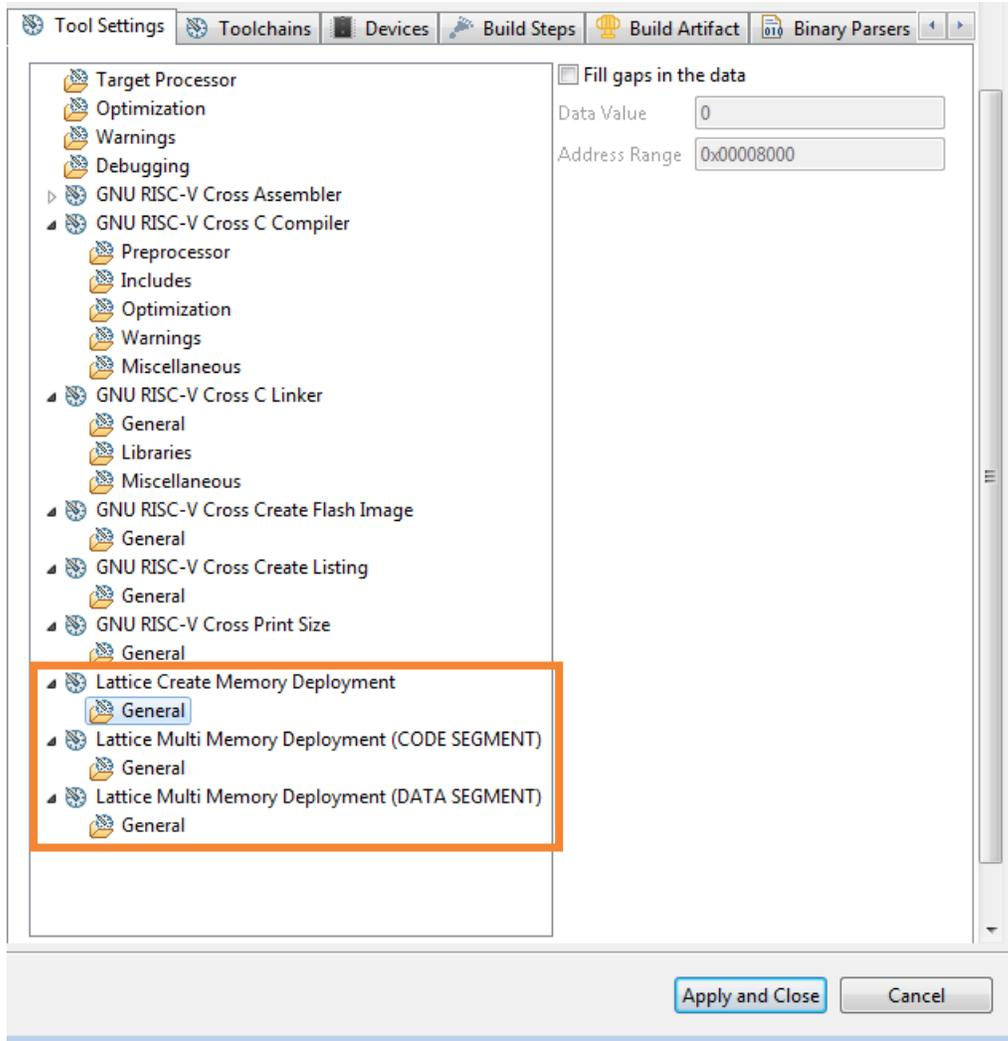

Figure A. 5. Tool Settings Tab of C/C++ Build Settings
5. Go back to the **Tool Settings** tab. The relevant Lattice memory deployment tools can be found (Figure A. 5). Customize the tool options as needed.